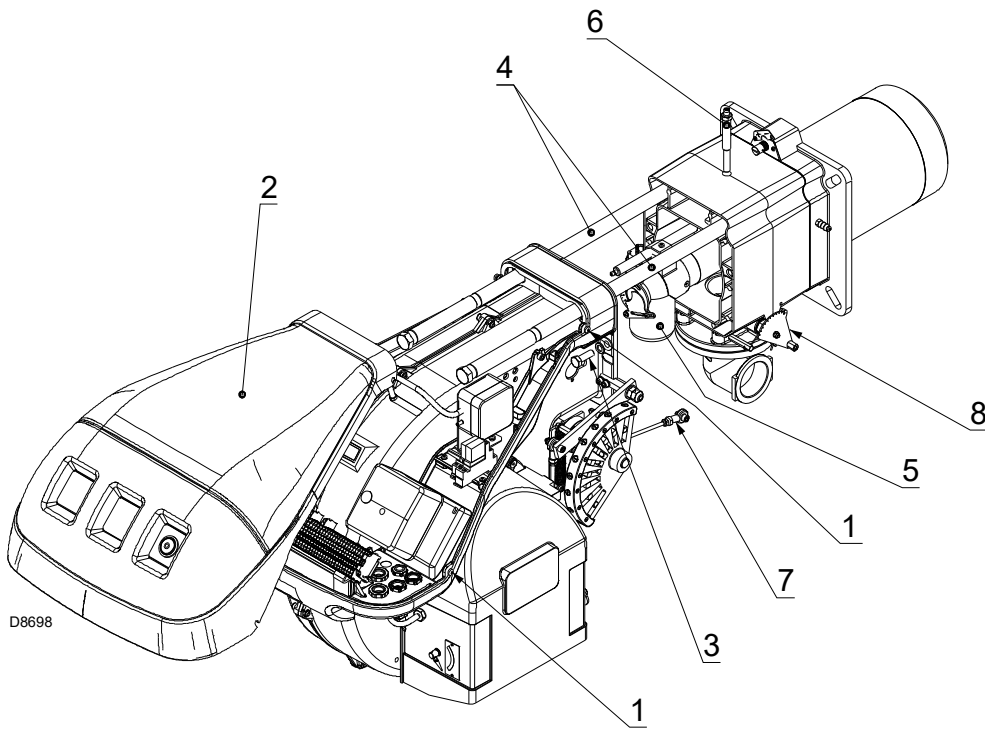

Fig. 35
Check the gas outlet holes for the ignition phase (in the distributor of the combustion head) are free of impurities or rust. If in doubt, disassemble the elbow 5)(Fig. 35, page 32).
- Loosen the screws 1) and remove the hood 2)(Fig. 35).
- Replace the screws 3)(Fig. 35) and carefully pull the probe and electrode cables out until they are slightly taut.